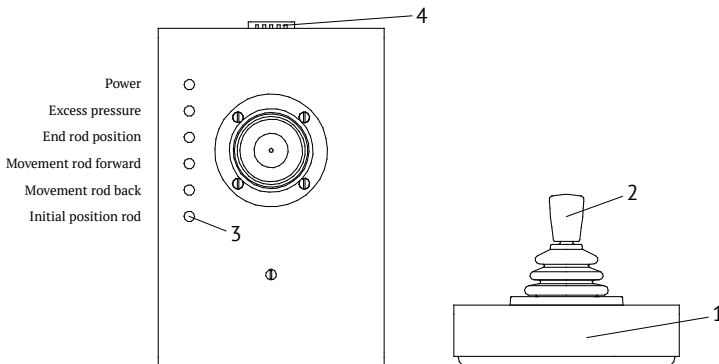

Fig. 4. External view of the joystick:
4.4 The external view of the joystick unit is given in fig. 4.
4.9 The change of pressure is carried out using a joystick unit, which consists of body 1 (Fig. 4), joystick handle 2, indicators 3, and connection